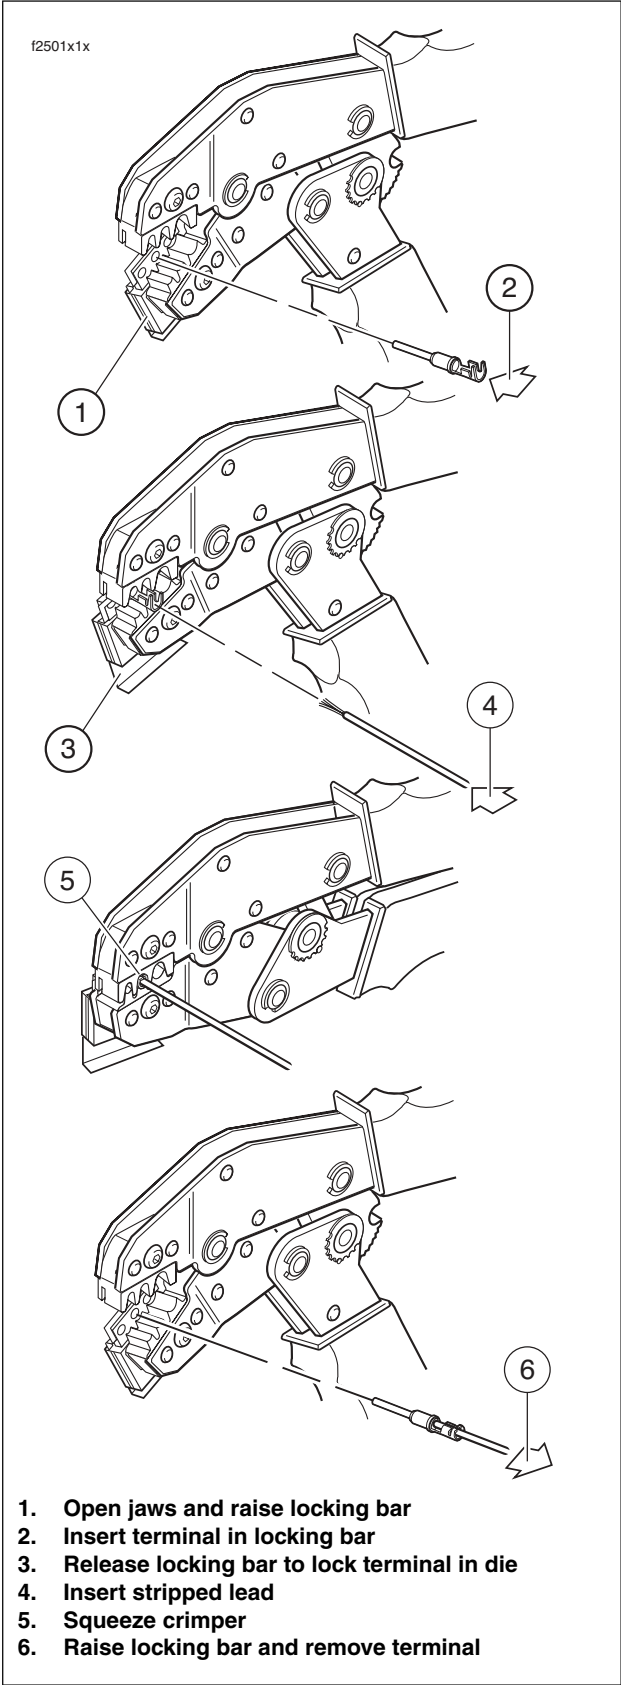

Figure B-14. Crimping a Deutsch Standard Terminal
- 1. See Figure B-14. Squeeze the handles of the DEUTSCH TERMINAL CRIMP TOOL (HD-39965) to open the jaws. Push the locking bar (1) up.
- 2. Insert (2) terminal (socket/pin) through hole of the locking bar, so that the rounded side of the contact barrel rests in the die (concave split level area) with the crimp tails facing upward. To match the wire gauge to the crimp tool die, refer to Table B-4.